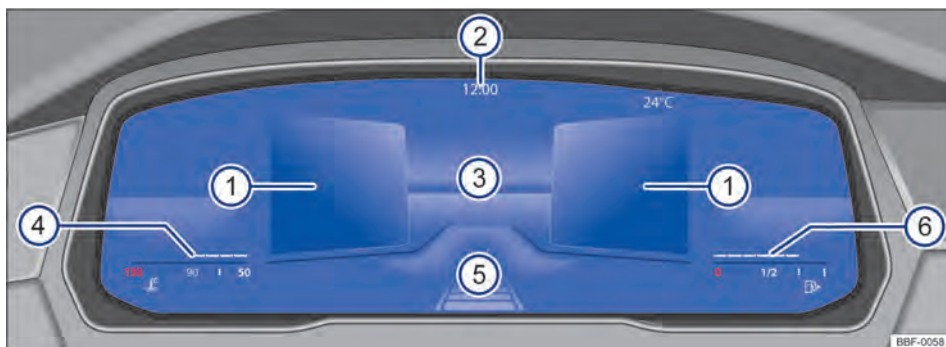

Fig. 11 Active Info Display (version 2) on the dash panel.
Explanations to the instruments → Fig. 11:
The main display → Fig. 11③ can be switched by pressing **[View]** on the multifunction steering wheel. The representation in the display area can show the following views:
- **Summary:** after completing the readiness check: displays information on vehicle status in areas ①, such as current mileage.